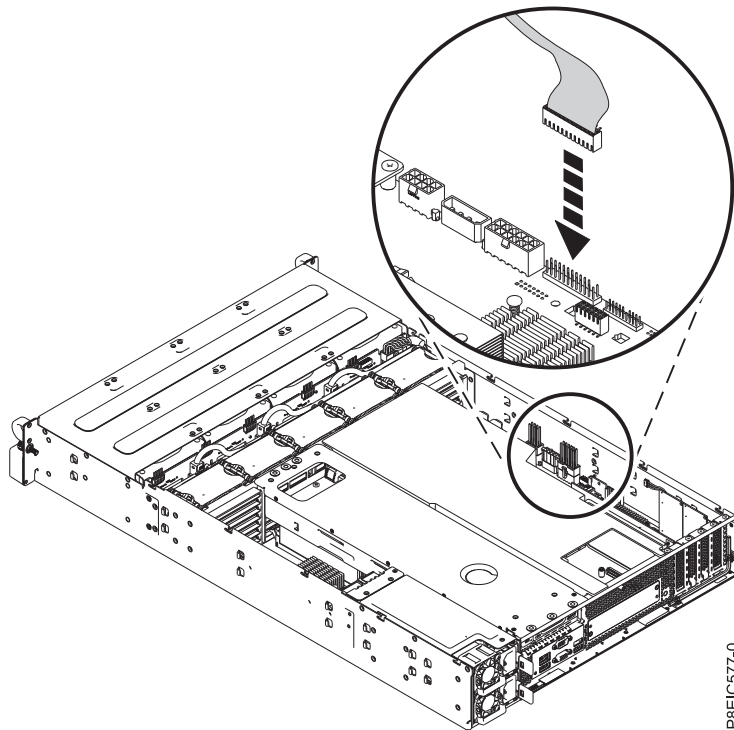

Figure 65. Connecting the front panel control cable
8. Replace the front panel control cable in the system backplane, as shown in Figure 65.